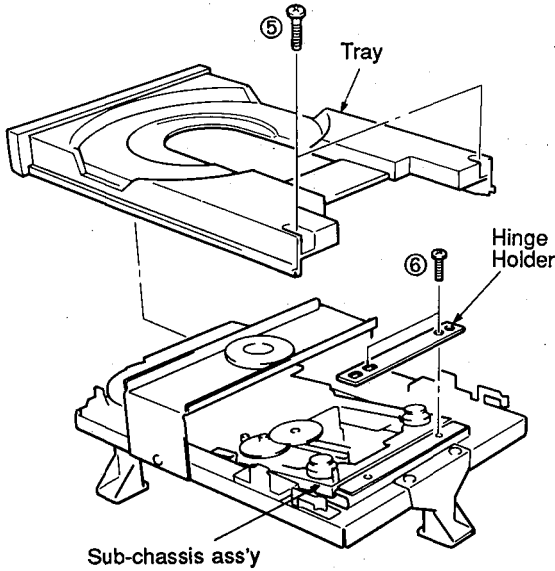

Fig. 2
- a. Remove 2 screws (⑤) in Fig. 2.
- c. Remove 2 screws (⑥) and remove the hinge holder in Fig. 2.